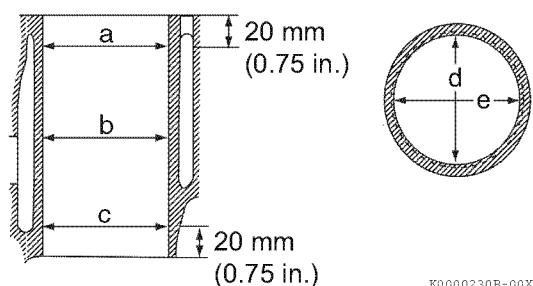

Figure 6-60
- Take measurements at three places (**Figure 6-60, (a, b, and c)**), and in two directions (**d and e**) in each cylinder. Collect and record the measurements. *See Cylinder Block on page 6-10 for specifications.*